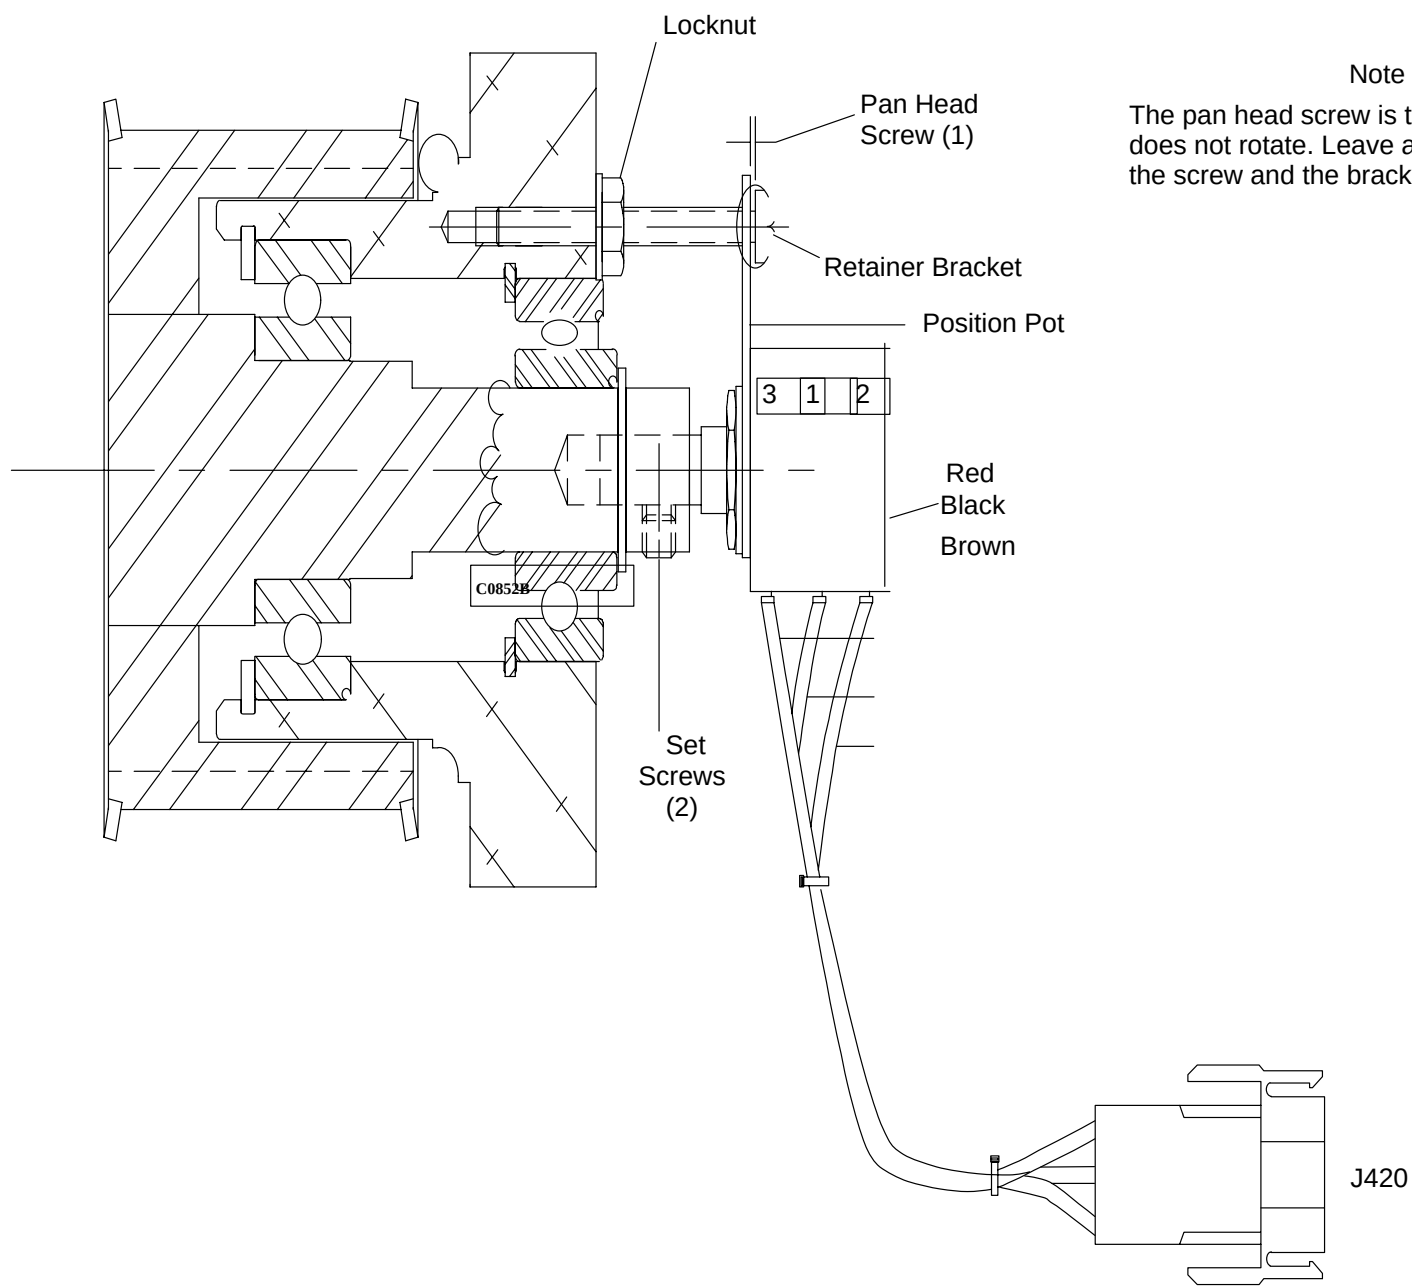

FIGURE 206 REMOVING POSITION POTENTIOMETER
7. Remove the Retainer Bracket from the Position Pot and cut the Tiewrap that anchors the Cable. See Figure 206.